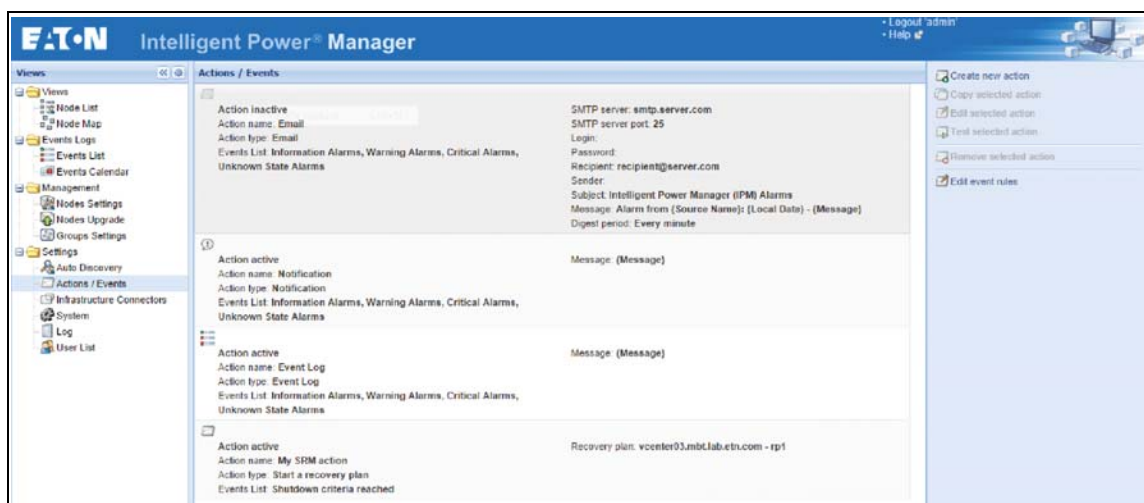

Figure 257. Actions / Events Panel
4. After you are satisfied with your settings, you can save the configuration (see Figure 257).